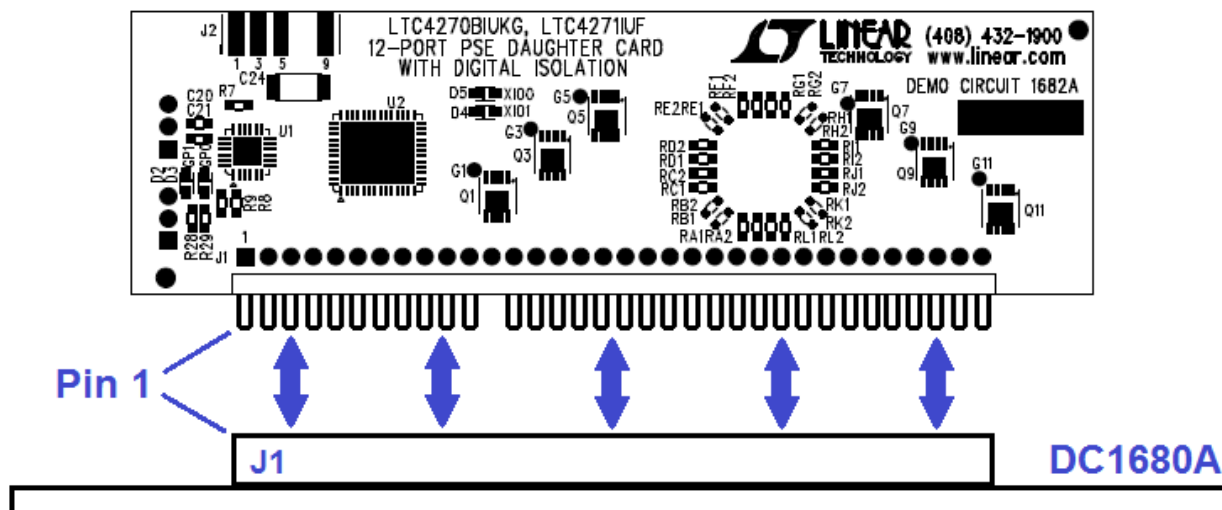

Figure 2. Inserting the DC1682A into J1 of the DC1680A
3. Align pin 1 of the 34-pin male connector on the DC1682A with pin 1 of the 34-pin female connector on the DC1680A (Figure 2). Pin 12 is polarized to assist with the